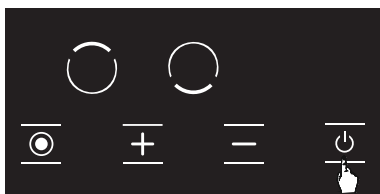

Figure 11
1. You may turn the stove off by pressing the **Power** button. (See Fig. 11)